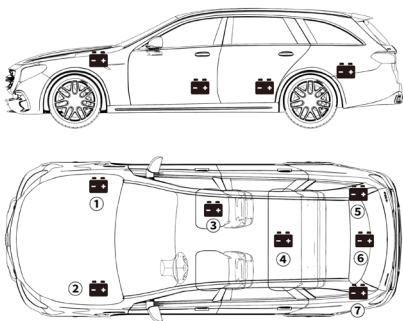

Figure 3.1.1
- 1) Most models hold the battery in the engine bay, under the hood, in one of the front corners. See battery location ① and ② in Figure 3.1.1.
- 2) To balance uneven weight distribution, some manufacturers hold the engine in the trunk. See battery location ⑤, ⑥, and ⑦ in Figure 3.1.1. In this case, the battery may have a plastic cover that should be removed prior to any testing.
- 3) For some models, the battery might be stored underneath the rear seat. See battery location ④ in Figure 3.1.1.
- 4) For other vehicles, the battery can be located underneath the front passenger seat. See battery location ③ in Figure 3.1.1.